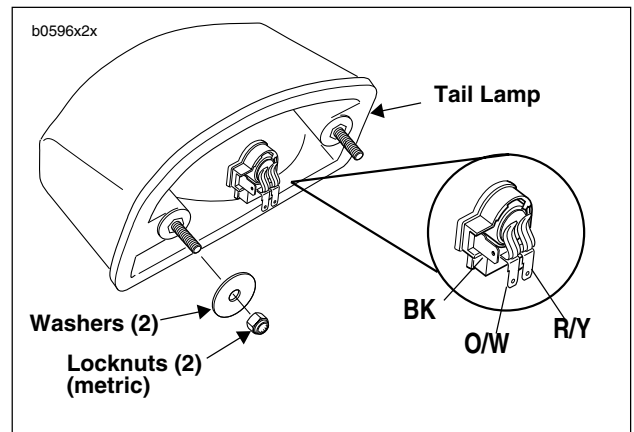

Figure 2-108. Tail Lamp
3. See Figure 2-108. Disconnect the three tail lamp wires (BK, O/W, and R/Y).
2. See Figure 2-108. From inside of tail section, remove two locknuts (metric) and washers. Remove tail lamp from license plate bracket and tail section bracket.
3. See Figure 2-108. Secure tail lamp with washers and locknuts (metric).
5. See Figure 2-108. Attach the three tail lamp wires.